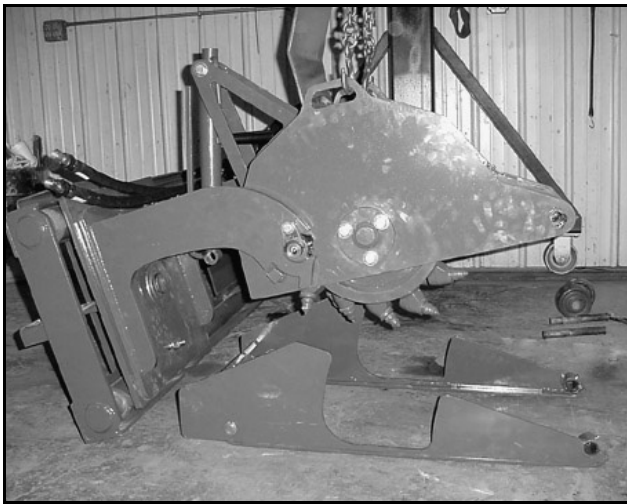

Figure 17.
6. Lift the planer chassis to allow sufficient clearance to slide out the depth skid as shown in Figure 17.